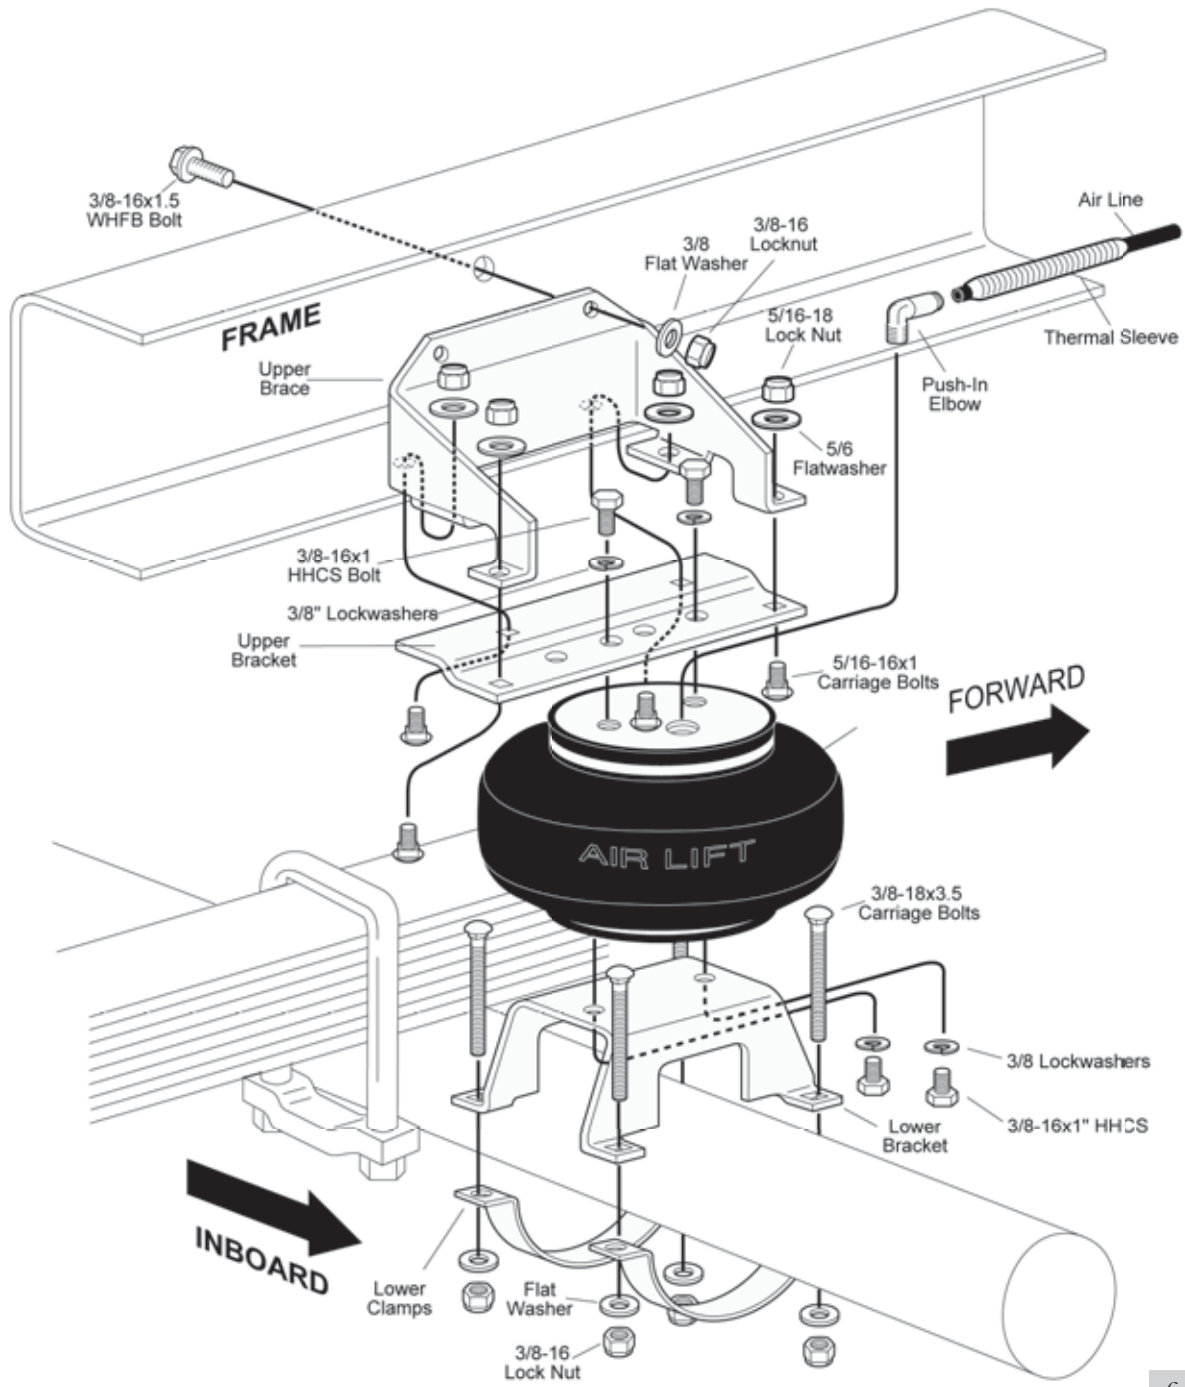
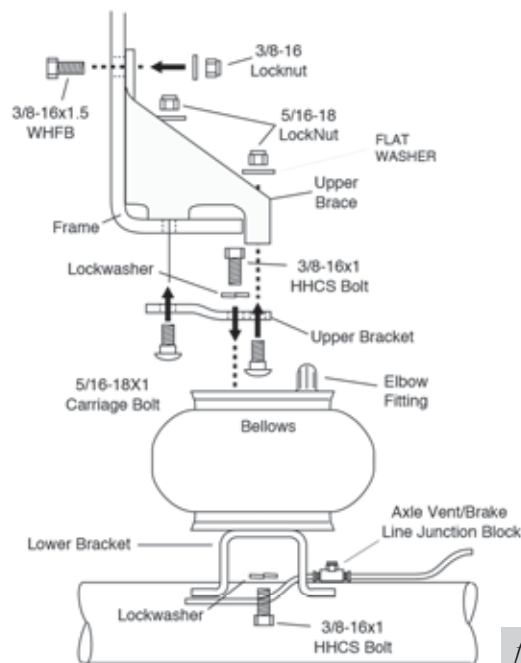
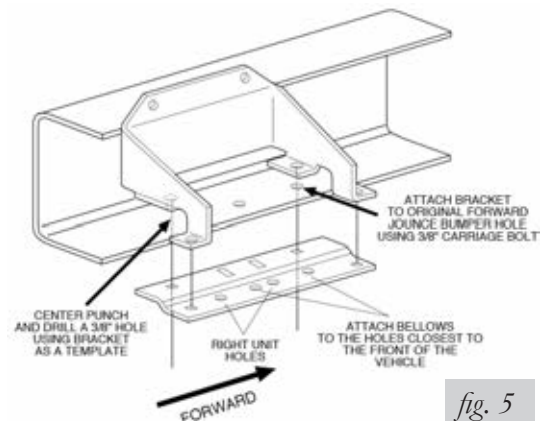

fig. 1
fig. 2
fig. 5
2. Position the bellows with the air port down. Secure the lower bracket to the bellows using two 3/8x16x1" hex head bolts, and two 3/8 lock washers (Figure 2). Assemble left and right units. Tighten to 20 ft-lbs.
3. Position the bellows with the air port up. Install the air fitting on the top side of bellows. Tighten finger tight plus two turns. Use a 9/16" open end wrench being careful to tighten on the metal hex nut only. DO NOT OVER TIGHTEN. This fitting is precoated with thread sealant. Be sure to position the air fitting so that it faces the front of the vehicle (Figure1). Repeat for other side.
5. Insert 5/16" carriage bolt into the front outboard hole in each upper bracket (Figure 5).
6. Attach upper bracket to bellows using two 3/8-16x1" HHCS and lock washers (Figure 2). Assemble both sides, making sure to use the correct set of holes (Figure 5). Tighten to 20 ft-lbs.
7. Set the assembly into place on the axle, inboard of the leaf spring (Figure 1 & 2).
Insert upper brace into frame rail (Figure 1, 2 & 5). Slide it under any lines or wires so that it is against the frame. Align the bottom holes of the upper bracket with the front jounce bumper hole in the frame. Insert the front carriage bolt, inserted in step 5, through the frame rail and the upper brace. Loosely assemble unit with a 5/16" lock nut. Drill remaining hole with a 5/16" drill bit, using bracket as a template. Insert another carriage bolt up from the bottom through upper bracket, frame and upper brace. Secure loosely with lock nut. Some vehicles will have an existing hole in the frame that will match one of the holes in the upper brace. If no hole exists, drill one 3/8" hole using the upper bracket as a template (Figure 5). Insert a 3/8x1.5"WHFB through the frame from the outside. Attach 3/8" lock nut and securely tighten this bolt to 20 ft-lbs., insuring that the brace fits tightly against inner frame rail (Figure 1). Tighten nuts holding upper brackets, frame and inner brace securely. Insert two 5/16" carriage bolts upward through the other holes in the upper bracket and upper brace and retain with lock nuts. Tighten to 20 ft-lbs.
Align the lower bracket to obtain the best alignment so that the top and bottom bellow mounting plates are parallel both vertically and horizontally. Hold lower bracket in place while securing carriage bolt with the lock nuts (Figure 1).